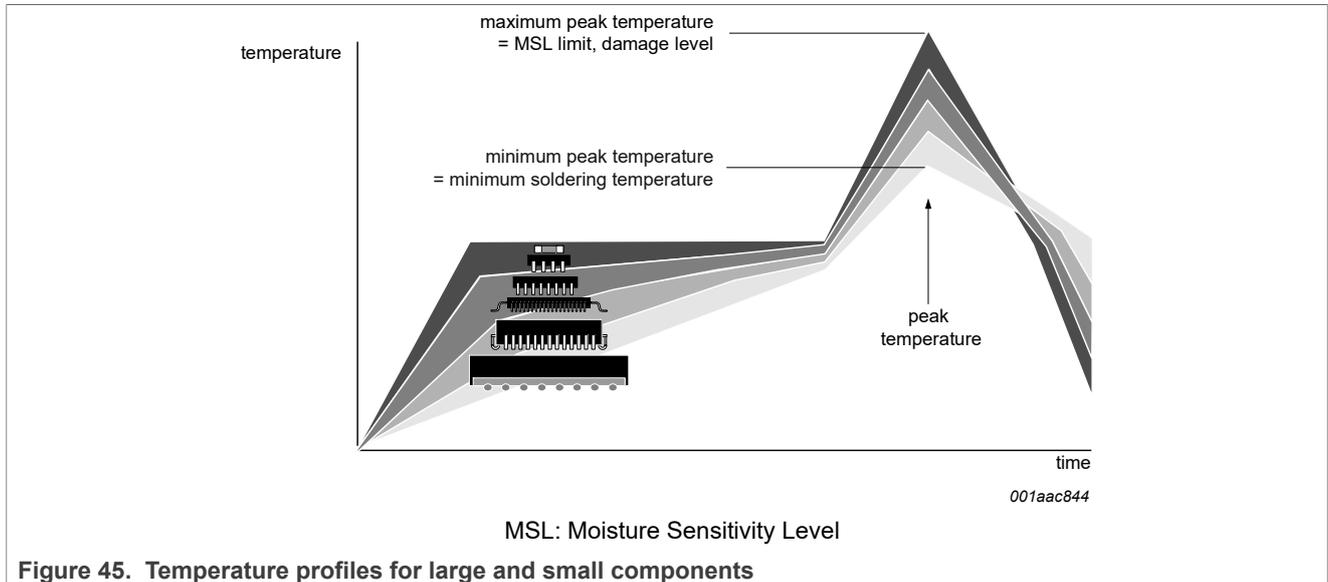

Figure 45. Temperature profiles for large and small components
- Lead-free versus SnPb soldering; note that a lead-free reflow process usually leads to higher minimum peak temperatures (see Figure 45) than a SnPb process, thus reducing the process window
Studies have shown that small packages reach higher temperatures during reflow soldering, see Figure 45.